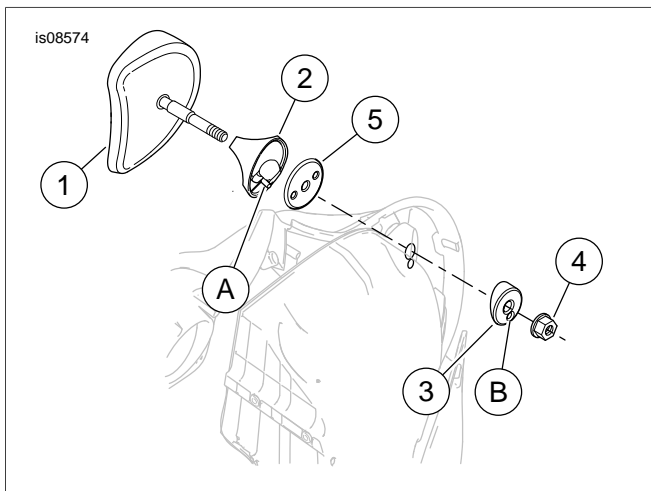

Figure 2. Service Parts: Fairing Mount Mirrors
See Figure 2 and Table 1.
4. See Figure 2. Install mirror assembly (1).
- a. With the locating pin (A) of the mirror assembly (1) inserting into the lower hole, install the mirror assembly.
- b. Install mirror base (2) and gasket (5).
- c. Install backplate (3) over mirror assembly, so that the locating pin is secured in the small hole of the backplate.
- d. Install flange nut (4). Tighten to 20-30 in-lbs (2.3-3.4 Nm).